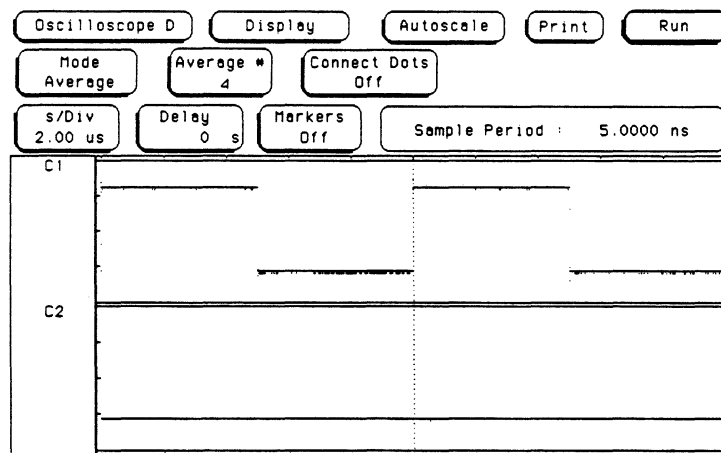

Figure 4-29. Square Wave Response
- e. With a **non-metallic** adjustment tool, adjust C2 for flattest square wave response. See figure 4-29. Allow a few seconds for averaged display to stabilize.